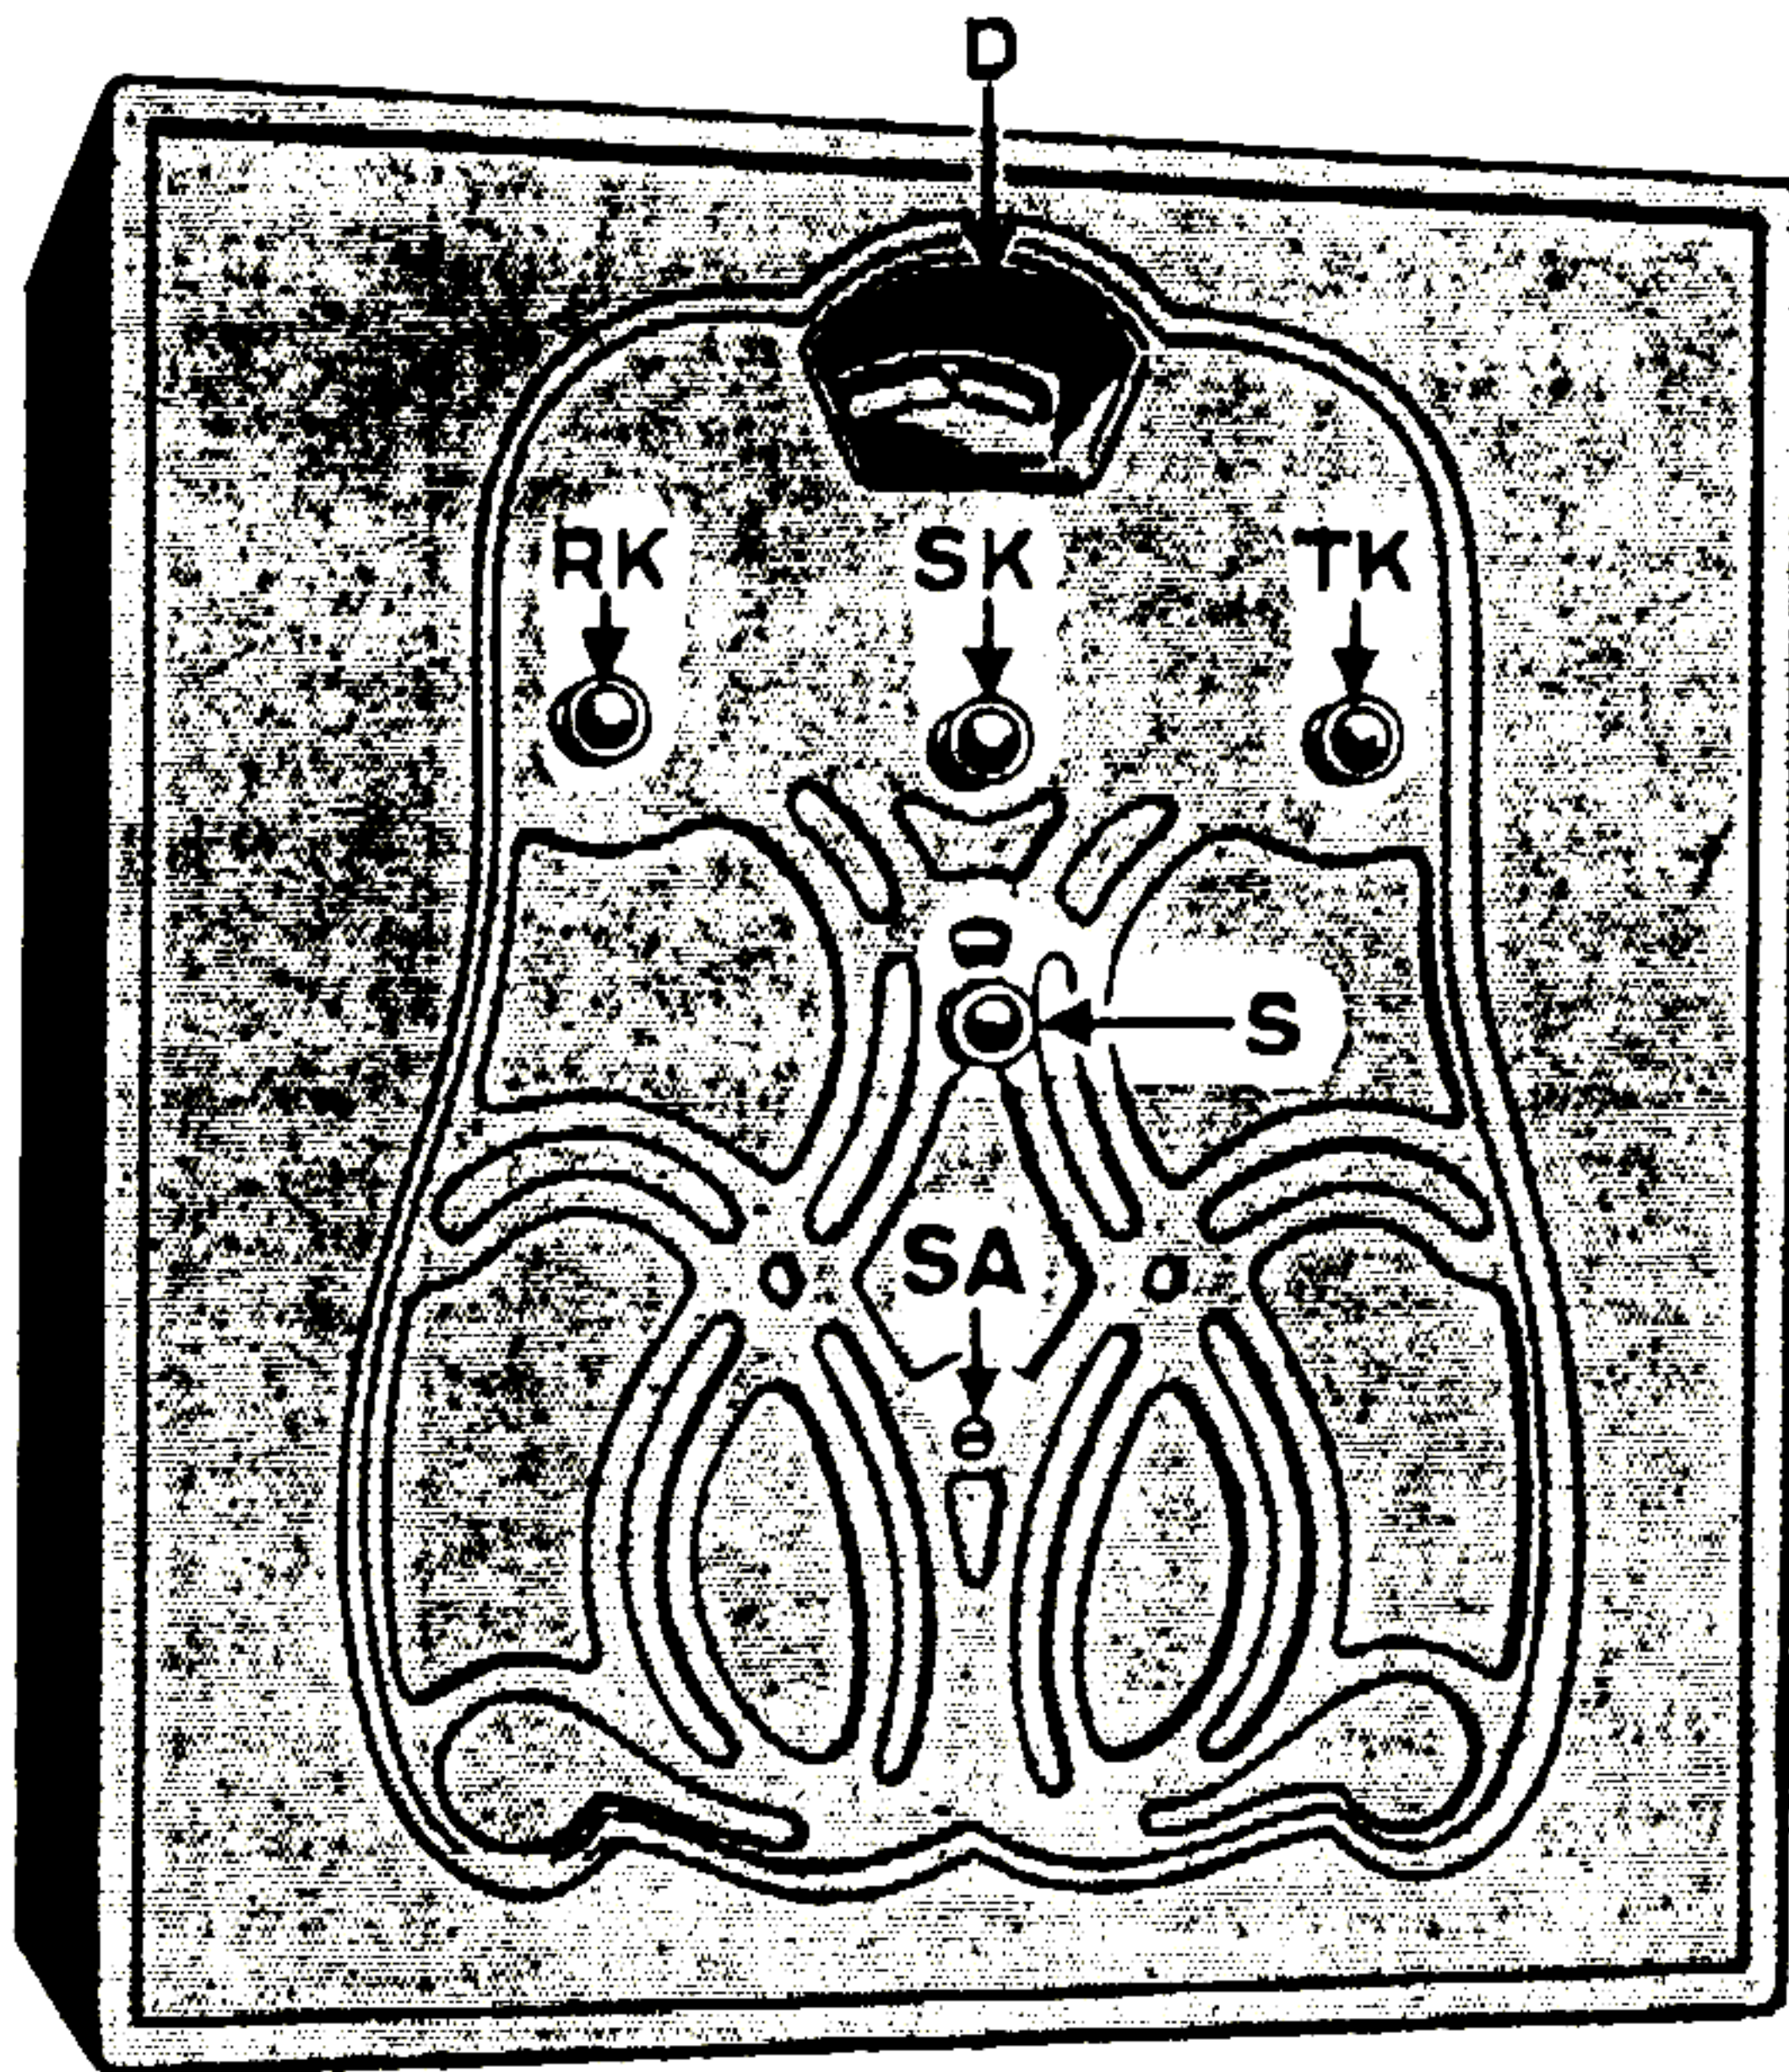

Fig. 2.
1. Turn the knob "S" (Fig. 2) on the front of the cabinet to the "OFF" position and open door at the back of the cabinet.
TUNING. (Fig. 2.)
1. Turn the wave-length switch " S " (Fig. 2) so that the small indicator dial shows the required wave band, viz. :—
2. Turn the top centre knob S.K. (Fig. 2) to the *left* as far as it will go, and then $\frac{1}{4}$ of a turn to the right.
3. Turn the left-hand top knob R.K. (Fig. 2) to the left as far as it will go and then slowly rotate the right-hand knob T.K. (Fig. 2) until a station is heard.